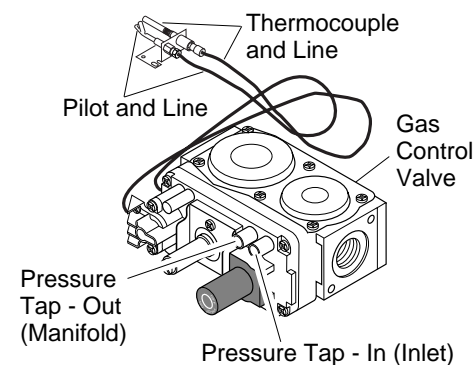

Figure 11 - Gas Control Valve with Thermocouple and Pilot
6. Attach the pilot gas line to the pilot outlet of the gas control valve and tighten. Connect the thermocouple to the terminal block on the gas control valve. See Figure 11. Do not overtighten. If using propane/LP gas, see *Changing Pilot Orifice*, page 11.